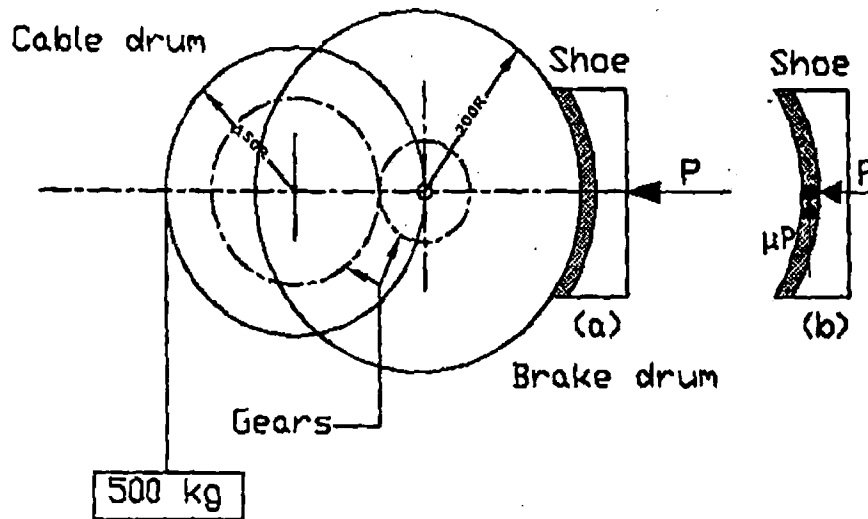

Fig. 2
- (b) A block brake with a short shoe is shown in Fig. 2. It is to be designed so that the product 'pv' is limited to 2, where 'p' is the normal pressure between friction lining and the brake drum (N/mm2) and 'v' is the peripheral velocity of brake drum (m/s).